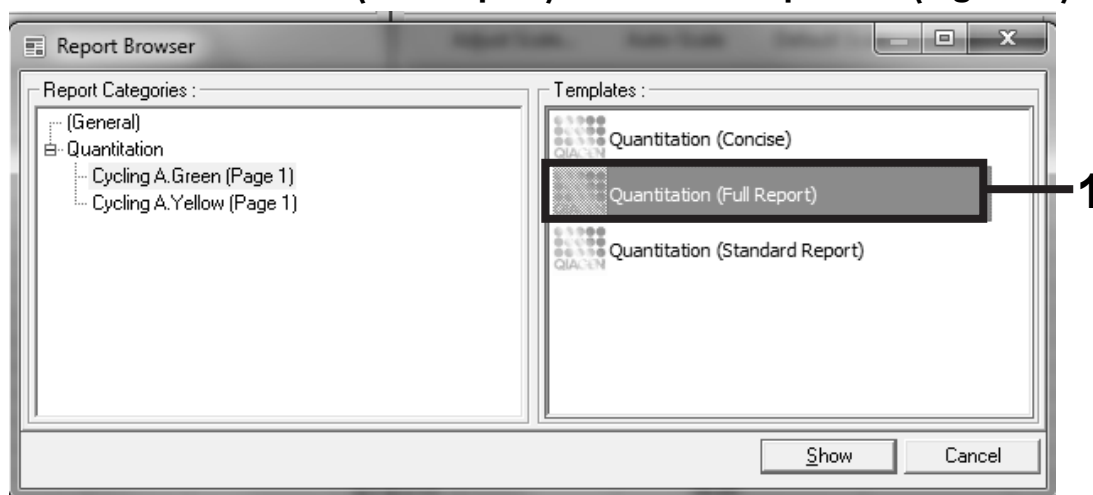

Figure 7. Quantitation report (full report).
18. Select “Quantitation (Full Report)” under “Templates” (Figure 7).